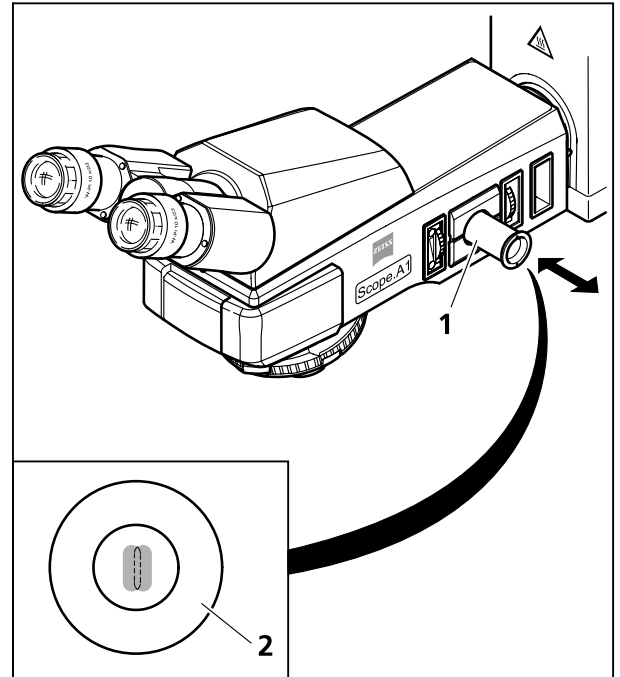
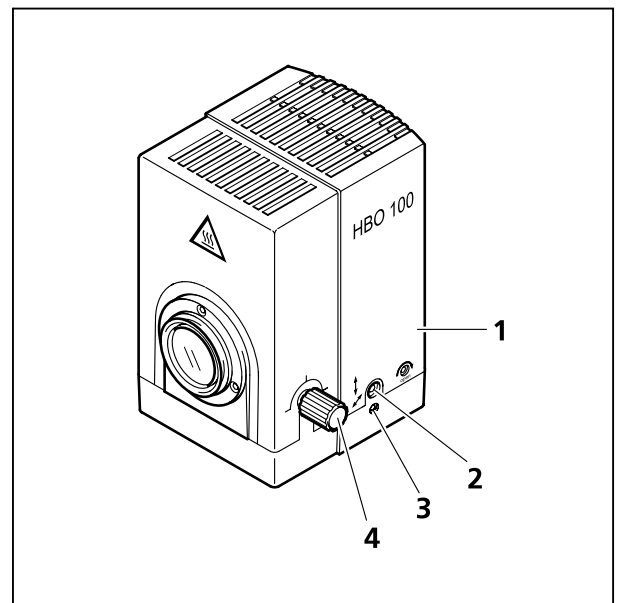
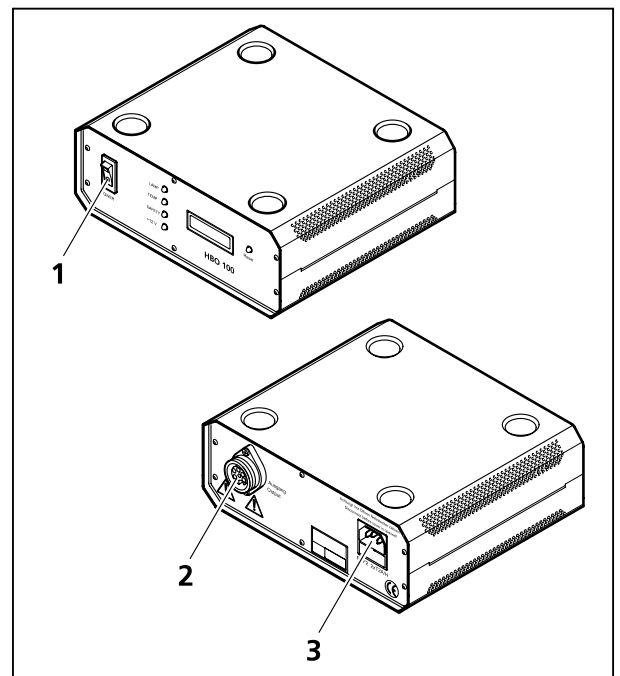

Fig. 3-33 Adjustment aid
Fig. 3-34 Adjusting the HBO 100
Fig. 3-38 Transformer HBO 100 W (front and back)
- Turn on HBO 100 illuminator (Fig. 3-34/1) on the transformer HBO 100 W (Fig. 3-38/1) and wait until it reaches its operational temperature.
- Pull adjustment aid (Fig. 3-33/1) out of the microscope stand. The lighter colored focal point of the lamp HBO 103 W/2 and its slightly darker reflection become visible in the black glass window of the adjustment aid.
- Use the knurled button (Fig. 3-34/4) for collector adjustment in order to focus the lighter focal point.
- Use the adjustment screws (Fig. 3-34/2 and 3) to focus the darker focal point (reflection) in analogy to the focal point image (Fig. 3-33/2) in the inscribing adjustment circle.
- Connect the HBO 100 plug to the transformer HBO 100 W (Fig. 3-38/2), then connect the power supply (Fig. 3-38/3) of the transformer to an electrical outlet.
- Switch on or off the HBO 100 lamp for overhead fluorescence light (if in use) with the power switch of the transformer HBO 100 W (Fig. 3-38/1).